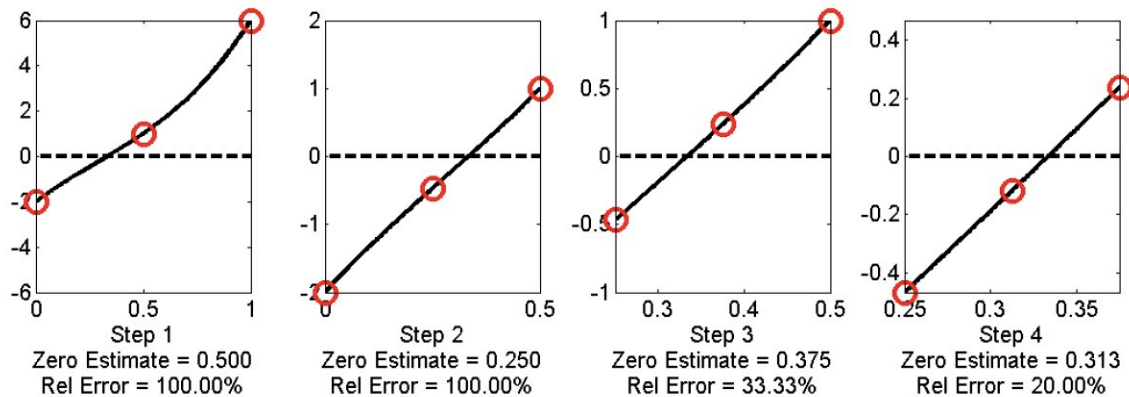

Figure 3: The bisection method used to find the root of $f(x) = 6x^3 - 5x^2 + 7x - 2$ in the interval $(0, 1)$.
The process is illustrated in Figure 3. In this figure, the bisection method is used to find the root of the function $f(x) = 6x^3 - 5x^2 + 7x - 2$. The root is determined to lie in the interval $[0, 1]$ and so these
2. The graphical output you should display is similar to that shown in Figure 3. At the very least, it should plot the three points $(a, f(a))$, $(c, f(c))$, and $(b, f(b))$ at each iteration and all plots should be appropriately labeled.